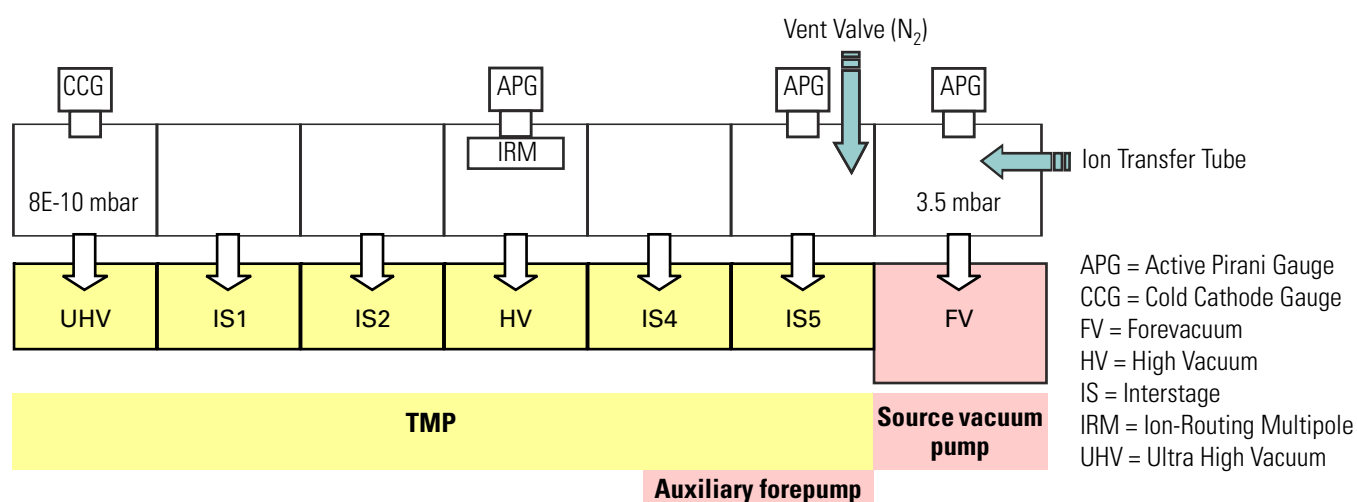

Figure 3-20. Schematic of vacuum system in Orbitrap Exploris 480 MS
The vacuum manifold encloses the ion source interface, the ion guides, the C-Trap, and the Orbitrap analyzer. The vacuum manifold consists of thick-walled aluminum chambers with machined flanges on the front, the sides, and the bottom, and various electrical feedthroughs and gas inlets. The vacuum manifold is divided into seven chambers. The region inside the first chamber, called the funnel region, is evacuated by an external roughing pump (source vacuum pump). A six-stage turbomolecular pump (TMP) applies a vacuum of increasing quality along the other six regions, the sixth region being evacuated by the UHV stage of the TMP. Figure 3-20 shows a schematic overview of the vacuum system, Table 3-4 shows the vacuum regions of the mass spectrometer.
The vacuum manifold is vented when external power is removed from the instrument. (Power is removed from the instrument by a power failure or by placing the main power circuit breaker in the Off (O) position.) After the external power is removed, power is provided to the vent valve until the rotational speed of the TMP is reduced sufficiently to allow controlled venting of the instrument. If external power is not restored to the instrument in this time, power to the vent valve solenoid is shut off. When power to the vent valve solenoid is shut off, the vent valve opens and the manifold is vented with nitrogen. See Figure 3-20 on page 3-27. The vent valve closes after power is restored to the instrument.